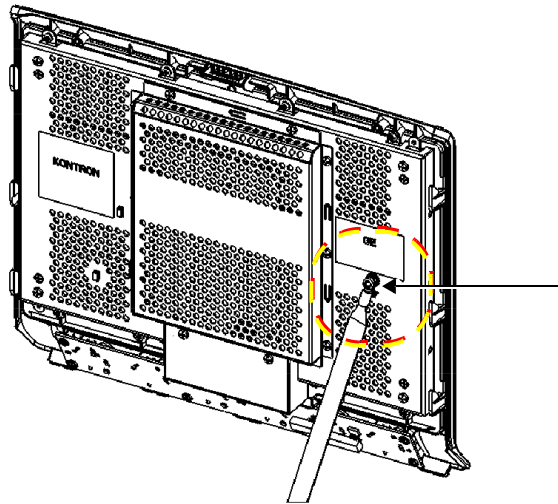

Figure 8-70 Disconnecting the Ground Cable
- 5.) Using a 7mm socket, disconnect the Ground cable - Figure 8-70.